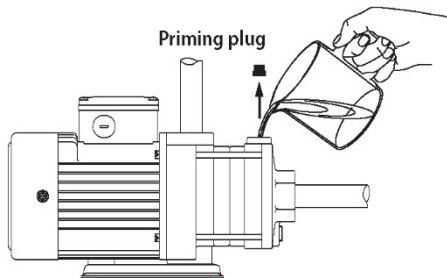

Figure 3
2. Remove the priming plug (**Figure 3**).